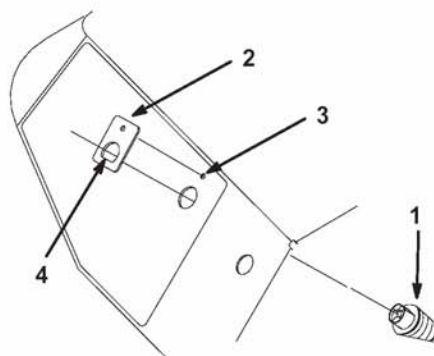

Figure 2
6. From the underside of the fender, insert the new key switch into the hole (Fig. 2).
7. From the top side of the fender, insert the rectangular switch plate onto the exposed threads of the switch (Fig. 2). Position the switch and plate so the flats are downward.
9. Remove the switch and the switch plate from the fender. Drill a 5/32" hole in the fender at the location marked (Fig. 2).